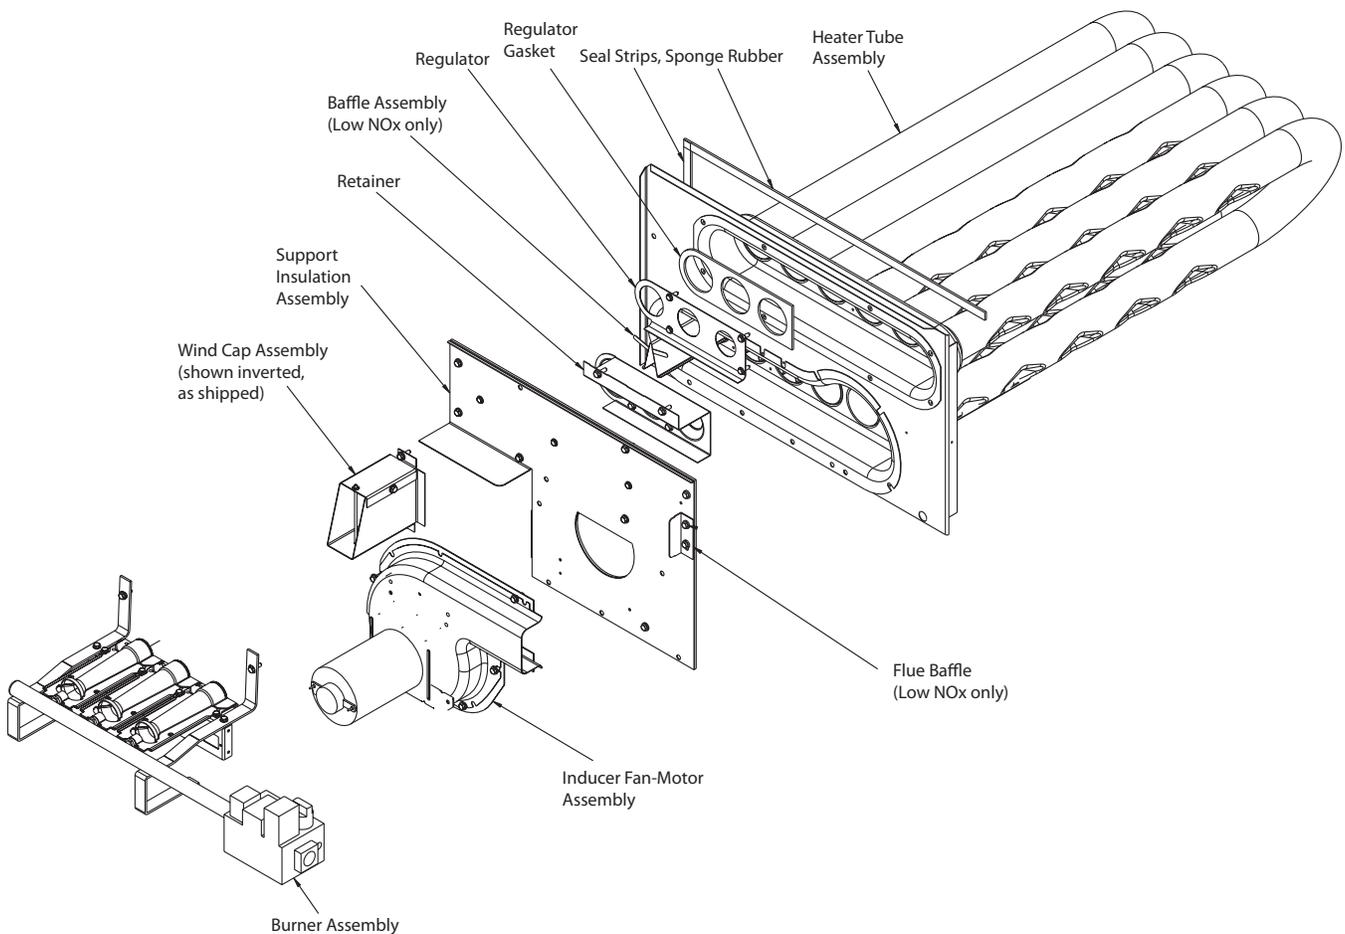
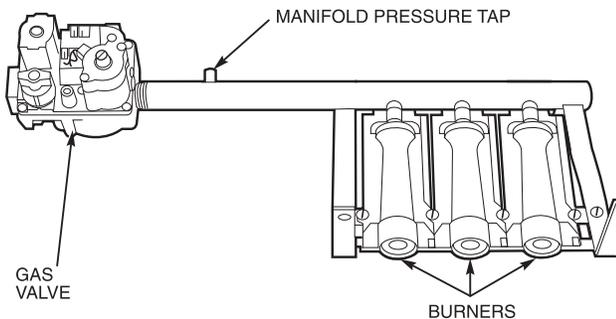

Fig. 31 - Heat Exchanger Assembly
Fig. 33 - Burner Tray Details
1. Remove the combustion blower wheel and motor assembly according to directions in Combustion-Air Blower section. See Fig. 31.
2. Remove the 7 screws that attach induced-draft motor housing to vestibule plate. (See Fig. 31.)
See Fig. 27, Fig. 31 and Fig. 33.
7. Remove the 2 screws that attach the burner rack to the vestibule plate (Fig. 31).
8. Slide the burner tray out of the unit (Fig. 33).
1. Remove manifold pressure tap plug from manifold and connect pressure gauge or manometer. (See Fig. 33.)